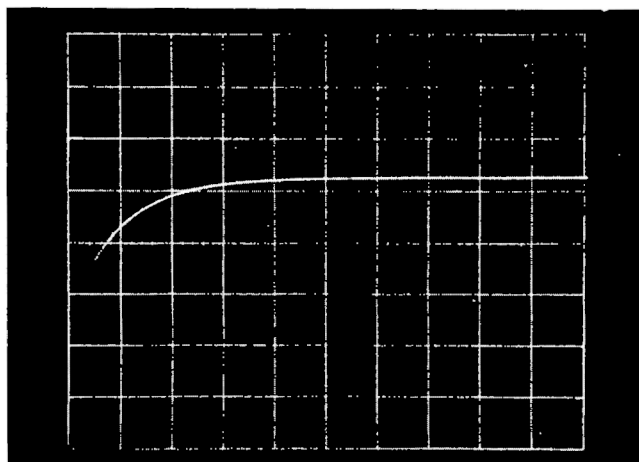

Fig. 2-4. Stored display of calibrator rise using the INTEGRATE button, at 1 μ sec/cm sweep rate.
8. Release the INTEGRATE button. A stored trace should be present on the screen (see Fig. 2-4). If not, repeat the demonstration and hold the INTEGRATE button for a few seconds longer.